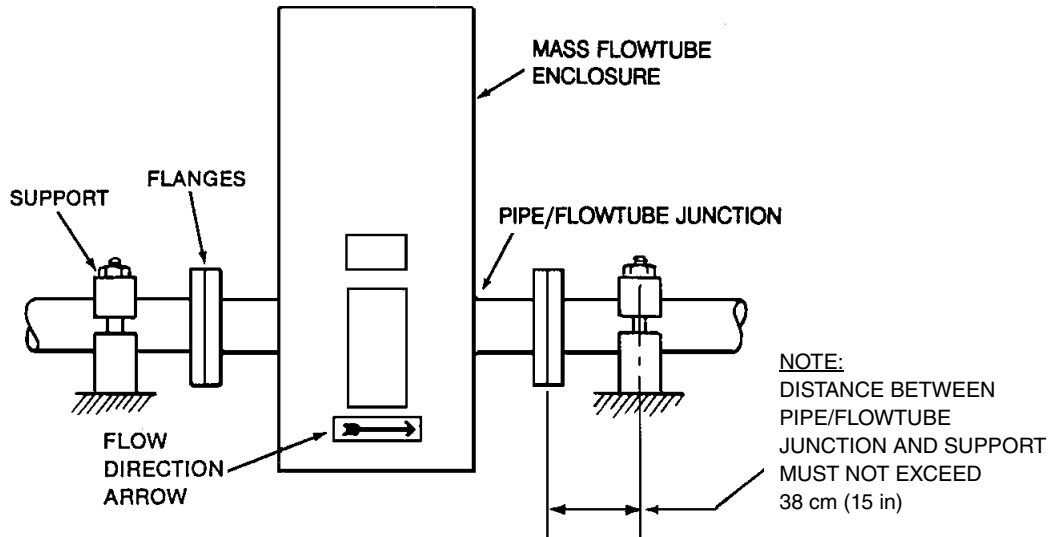
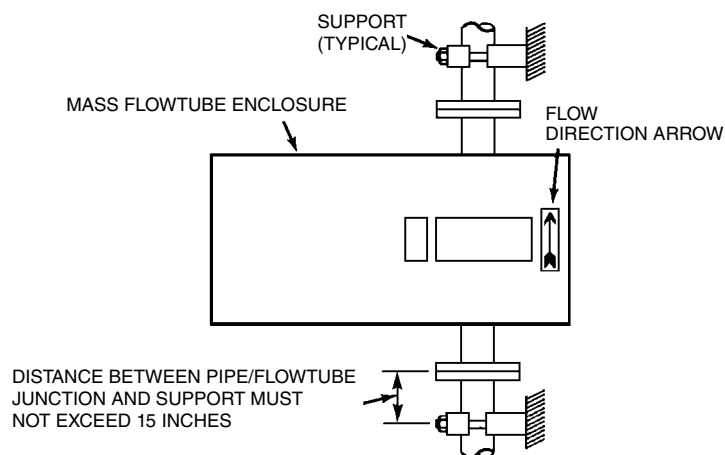

Figure 3. Flowtube Mounting with Flanged End Connections - Horizontal Pipeline
Figure 5. Flowtube Mounting with Flanged End Connections - Vertical Pipeline
- ◆ Standard practice is to mount the flowtube on a horizontal pipe as shown in Figures 3, 4, and 6. For self-draining, or if the process fluid contains gas bubbles, the flowtube should be mounted on a vertical pipe as shown in Figures 5 and 6.
The flowtube can be mounted horizontally or vertically as shown in Figures 3 through 6. When mounted vertically (as in self-draining applications), the direction of flow must be upward to minimize the incidence of trapped air. All of the following steps apply to both horizontal and vertical mounting.
1. Each support must contact flowline as close to the junction of pipe and flowtube enclosure as practically possible. For flowtubes with flanged end connections (Figure 3 and Figure 5), the distance between each support and the junction must not exceed 38 cm (15 inches).